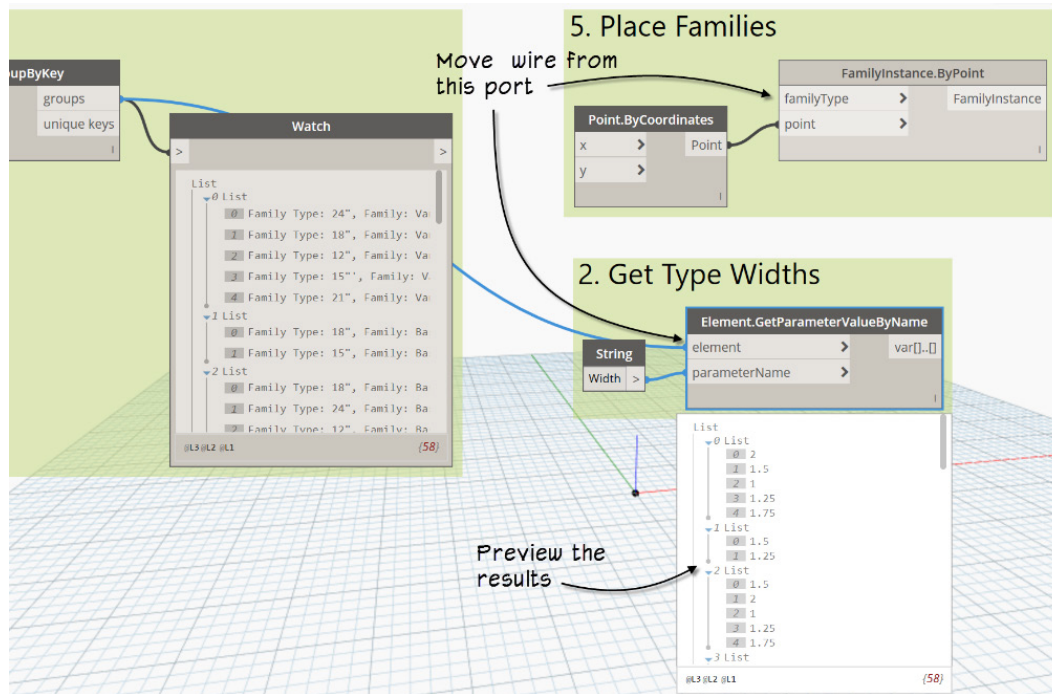

Figure 49
21. Run the graph and then click the preview bubble (see Figure 49).